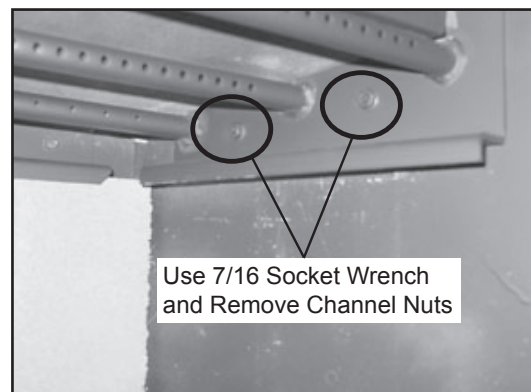

Figure 25.3
4. Slide the tube channel assembly all the way to left until it is off the threads. Drop the right side down, then slide the assembly back to right (**Figure 25.3**).